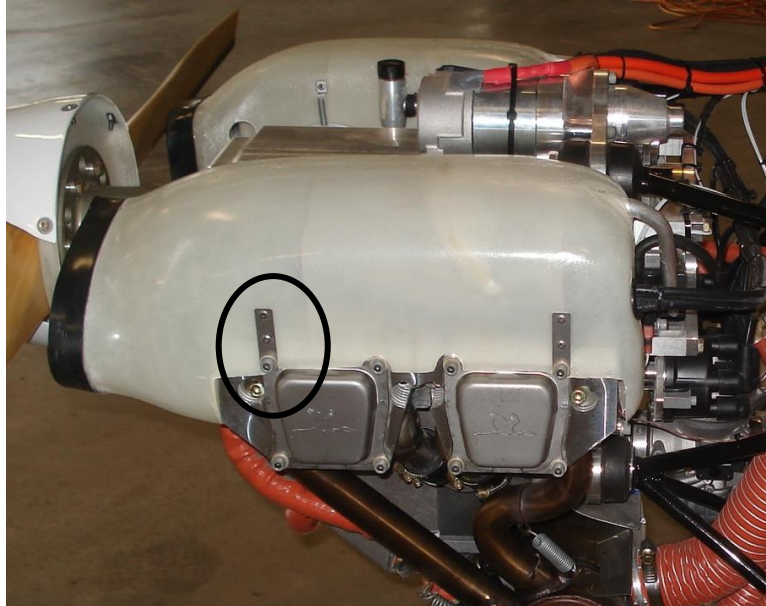

Figure 32 – Air Duct Hard Point Reinforcement
- If the hard-points where the ducts screw to the engine are damaged they must be repaired by the installation of reinforcement as shown in Figure 32: